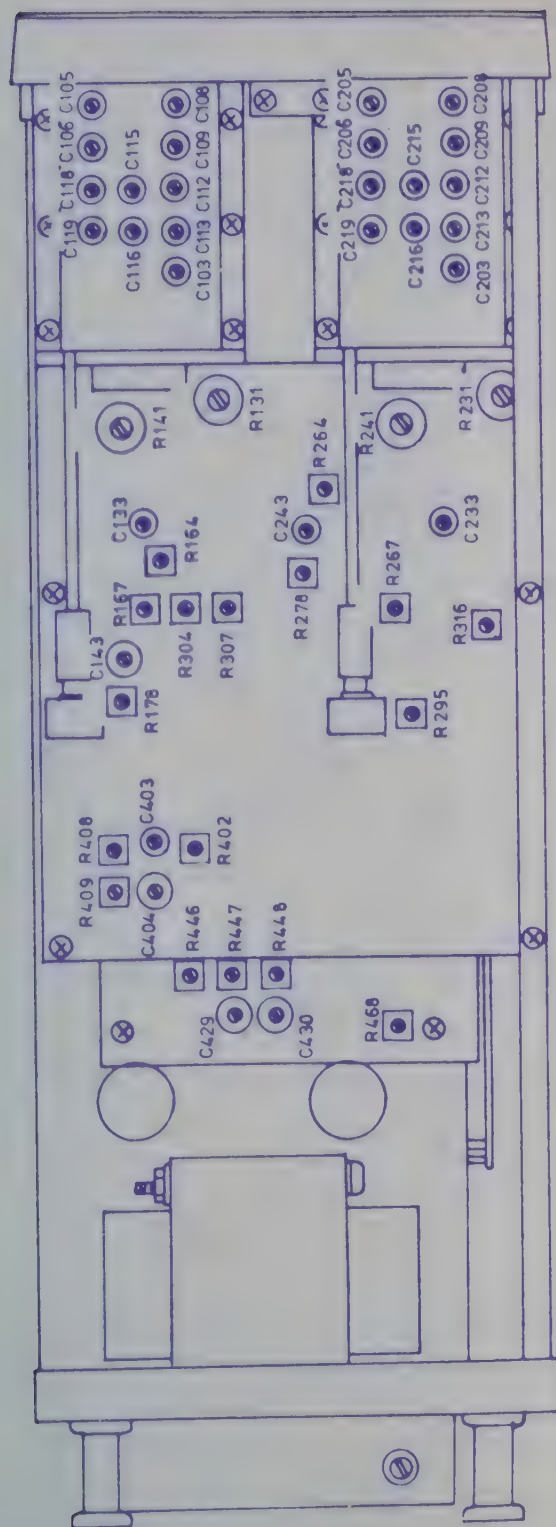

Figure 35
- (1) Apply a sinusoidal signal of approximately 1 kHz to the CH1 input terminal and set the AC-GND-DC switch at AC.
- (2) Set the VERT MODE switch at CH1, set the INT TRIG switch at CH1 or NORM, and display the signal with an amplitude of 8 DIV on the screen.
- (3) Set the COUPLING switch at AC and so adjust the LEVEL knob that the trigger point is brought to the center of the displayed waveform amplitude.
- (4) Change the COUPLING switch to DC and so adjust the CH1 TRIG DC OFFSET (Figure 35, R307) that the trigger point is brought to the center of the displayed waveform amplitude.
For this adjustment, adjust CH2 TRIG DC OFFSET (Figure 35, R316) in a similar manner as is the case for "Adjustment of CH1 TRIG DC OFFSET."
- (1) Set at 50 mVp-p the output of the signal generator used for "Calibration of sensitivity" of section 6.5, and apply the output to the CH1 (X-axis) input.
- (2) Set the VERT MODE switch (1) in the X-Y state. Set the AC-GND-DC switch (15) of CH2 (Y-axis) at GND.
- (3) Set the VARIABLE knob (6) at CAL'D and the VOLTS/DIV switch (5) at 5 mV.
- (4) So adjust the X-GAIN (Figure 35, R304) that the trace length becomes 10 DIV.